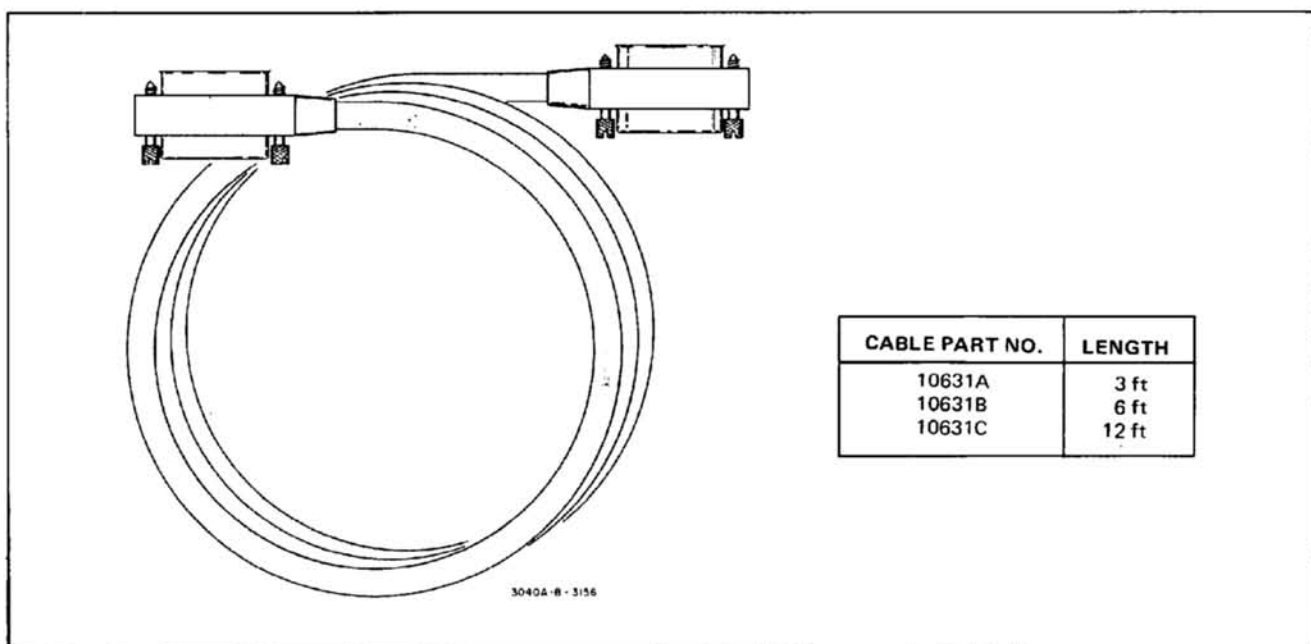
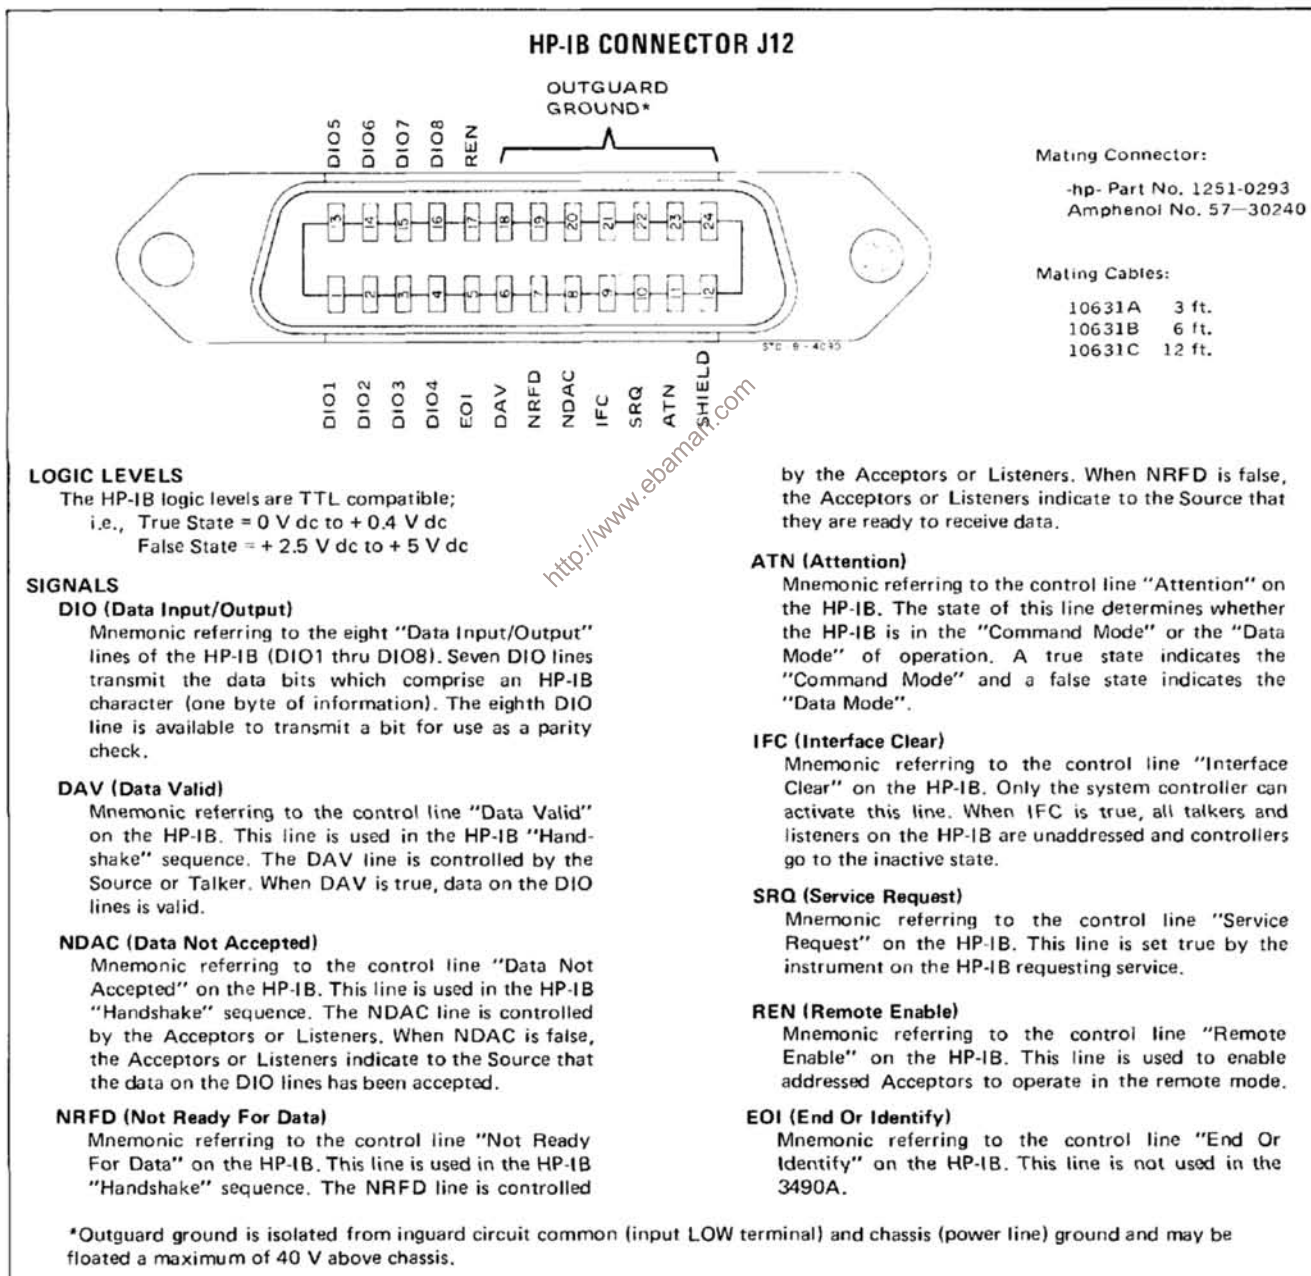

Figure 2-8. Interface Bus Cables.
Figure 2-9. Hewlett-Packard Interface Bus Connections.
2-37. Figure 2-9 shows the signal connections at the rear panel HP-IB connector, J12, and gives a brief description of each signal. Additional signal information is included in Section III, Operating Instructions (see Paragraph 3-90). The 10631A/B/C Interface Cables shown in Figure 2-8 are used to connect the instruments together. The connectors at either end of the cable are identical and consist of a plug which mates with the instrument rear panel connector or another cable, and a receptacle which will receive another cable plug. Instruments may then be paralleled as shown in Figure 4-20. The dual connector is not available as a separate unit because the hood is molded around the cable. The connectors listed in Table 2-2 mate with the rear panel connector or another cable. These do not provide the thumb screws for securing the connectors.
18. Hewlett-Packard Interface Bus connector J12 (Option 030). See Figure 2-9.